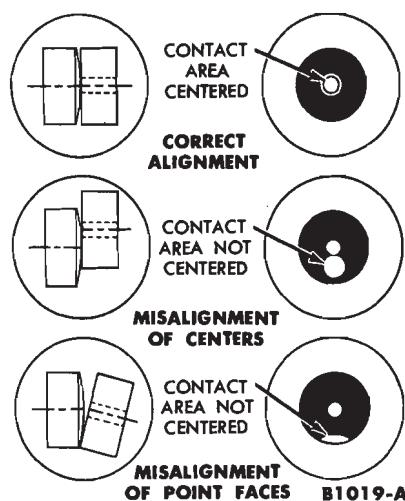

FIG. 15—Checking Breaker Point Alignment—Pivoted Points
1. Turn the cam so that the breaker points are closed and check the alignment of the points (Fig. 15).